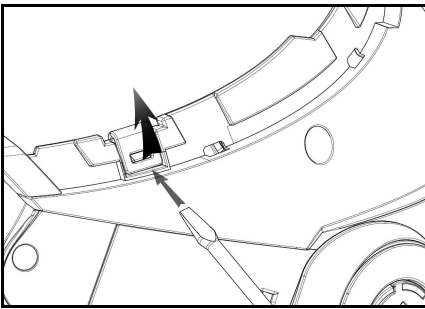

Fig. 8
- Unhook the right and left clips from the shell, levering upward using a flat head screw (or a similar tool), as shown in figure 8.